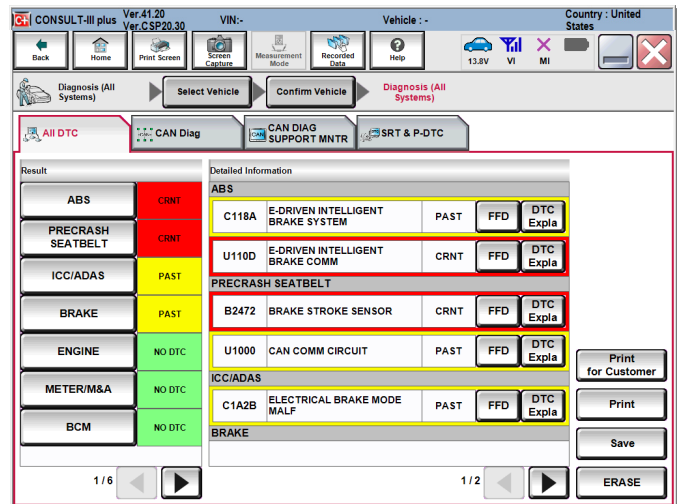

Figure 30
**NOTE:** Some, but not all should go to past as shown in Figure 30.